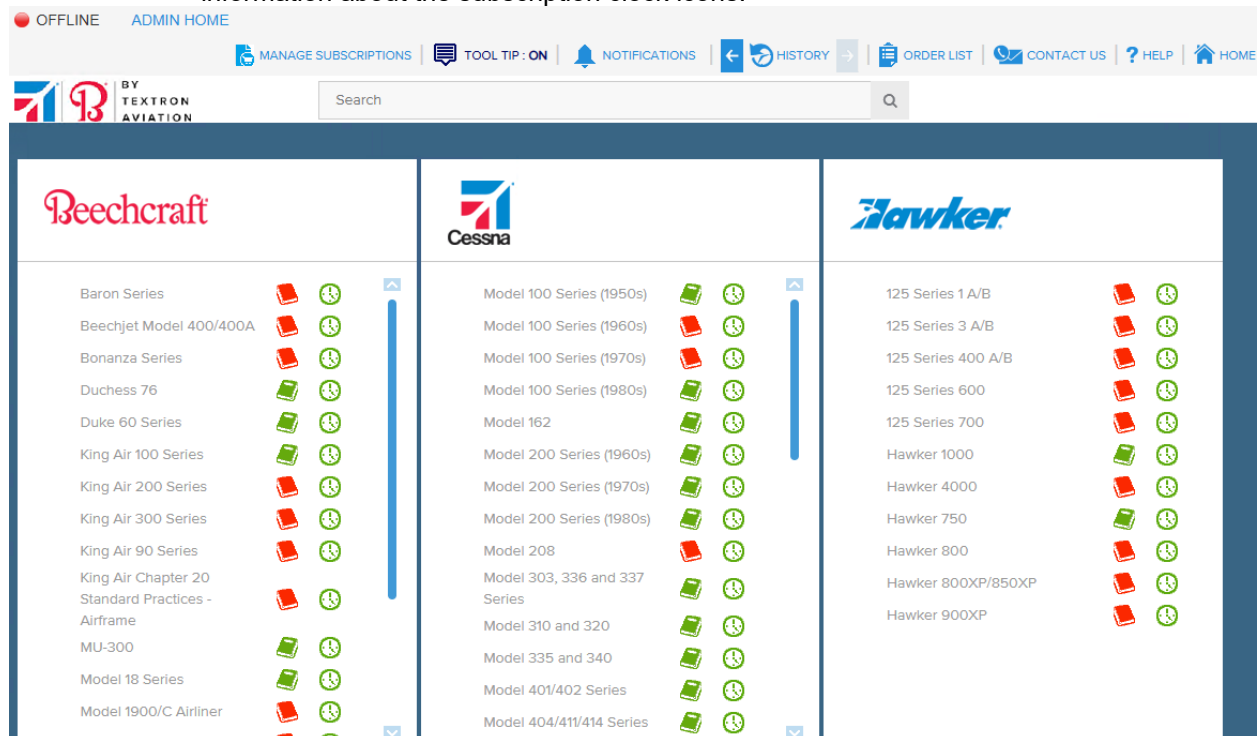

Figure 33 - 1View Offline Homepage
4. The 1View Offline Homepage will open in your default web browser. Navigation of the 1View Offline environment is the same as the previous User Interface (Refer to Figure 33).